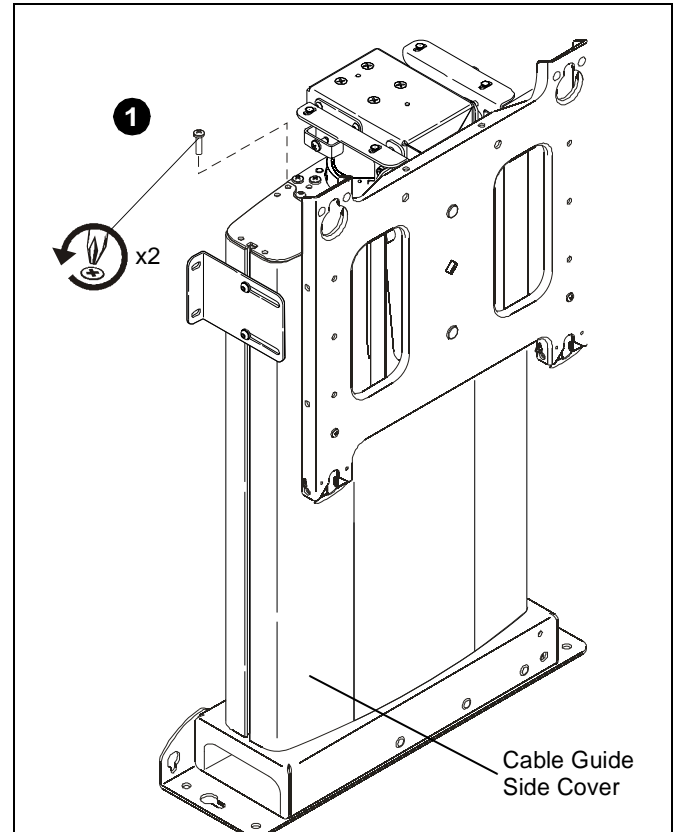

Figure 8
2. Set screws aside for reuse. (See figure 8)